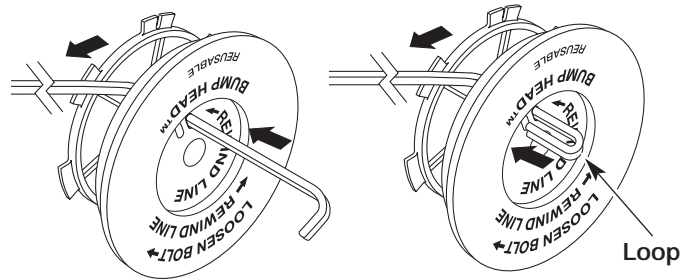

Fig. 33
- Take approximately 20 feet (6.1 m) of new trimming line. Insert one end of the line through one of the two holes in the inner reel (Fig. 33). Pull the line through the inner reel until only about 4 inches is left out.
- Insert the end of the line into the open hole in the inner reel and pull the line tight to make the loop as small as possible (Fig. 33).